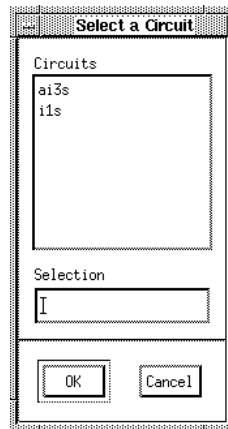

Figure 9.8: Circuits Window
**Circuits...** This option lists the currently loaded circuits and allows the user to select which one to display. Figure 9.8 shows the window for the **Circuits** menu item.